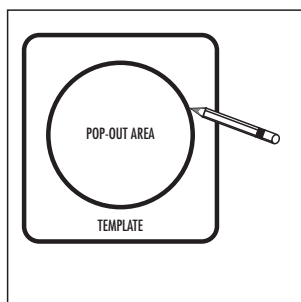

FIGURE 10a
- Using the template, trace the installation location with a pencil. You can do this by holding the template in your preferred location and tracing around it (rectangle) or within the template pop-out area (round). Use a level to make certain the template is straight and plumb. This is the exact cutout size [figures 10a & 10b].